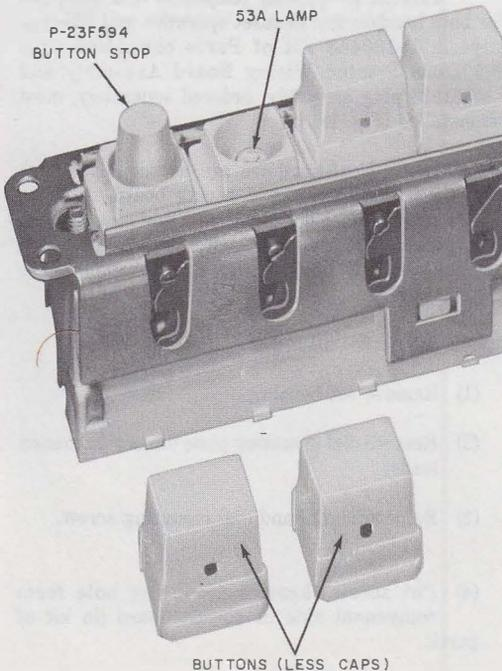

**Fig. 11—Blocking Ring Installed In 590 or 650 Series Keys**
- (1) Remove lamp block assembly from key (Fig. 11).
- (2) Remove button retainer.
- (3) Place blocking rings in plungers to be blocked.
- (4) Reassemble button retainer and lamp block assembly.